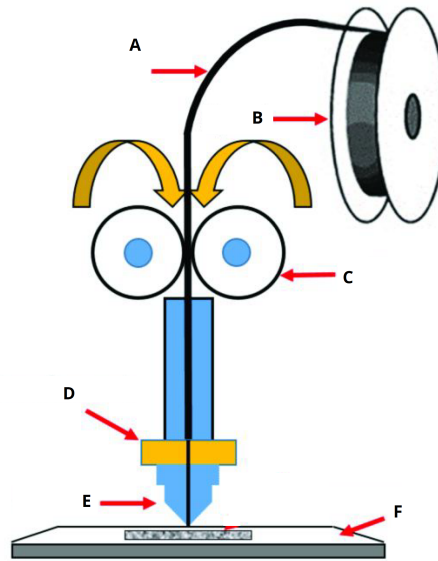

Figure 3: Task 5.1
1. Could you name all highlighted parts from the picture (fig. 3)?